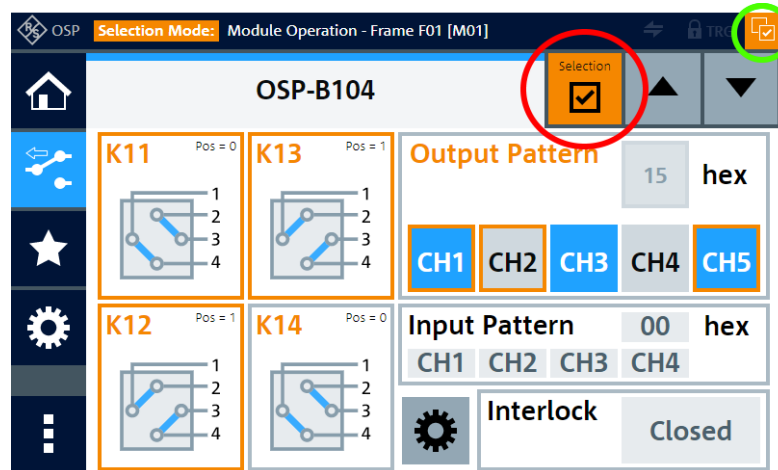

Figure 6-22: Relay and channel selection dialog
The "**Selection**" button switches the "Selection Mode" on or off. This button (marked by the red circle in Figure 6-22) is available only in a view that shows at least one module and its details.
If at least one relay or channel is selected, even if it is not part of the currently visible module dialog, the "Items Selected" indicator icon is highlighted in orange. This icon is marked by a green circle in the far right top corner of Figure 6-22. The state of the indi-
- The Selection Mode is disabled (see Figure 6-22)
Otherwise, with a dialog as in Figure 6-22, for example, the context menu offers the "Module Information" button for detailed information for this individual module: